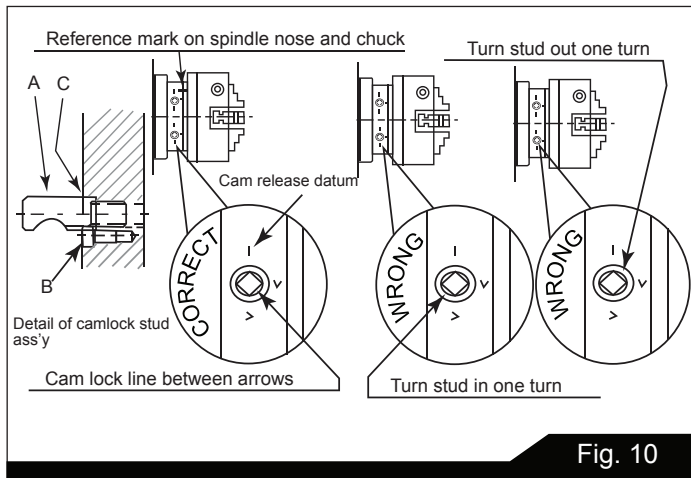

Fig. 10
When mounting chucks or faceplate, first, ensure that spindle and chuck tapers are thoroughly cleaned and that all cams lock in the correct positions, see figure. It may be necessary when mounting a new chuck to reset the camlock studs (A). To do this, remove the caphead locking screws (B) and set each stud so that the scribed ring (C) is flush with the rear face of the chuck - with the slot lining up with the locking screw hole (see Fig 10).